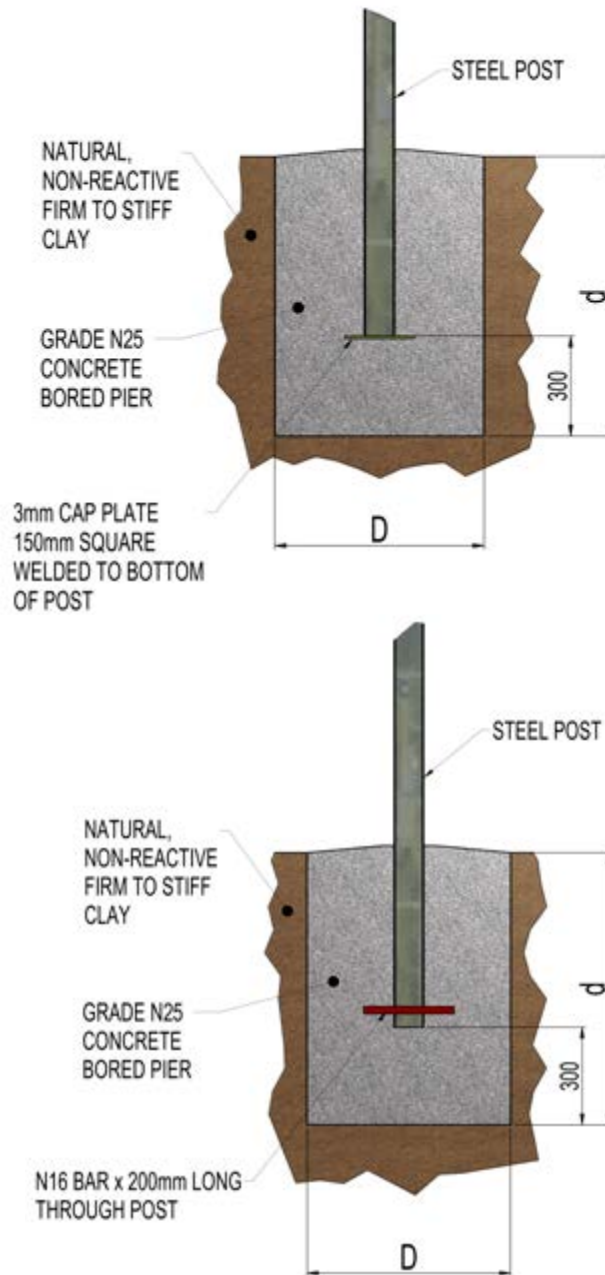

Figure A16
**Steel Post to Pad Footing (see Figure A16)**